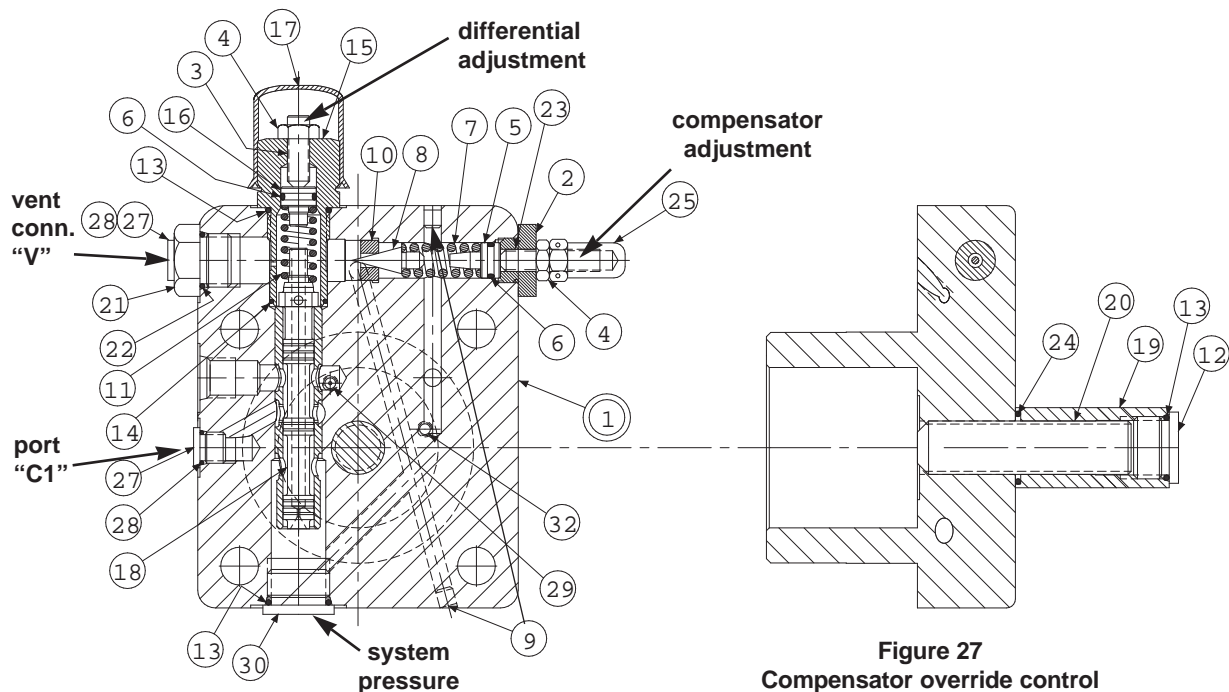

Figure 27
PARTS LIST FOR FIGURE 27
1. See Figure 27. Remove tube line to cap.
2. Remove maximum volume stop assembly (items 12, 13, 19, 20, 24).
4. Remove plug (15) and attached parts. Remove spring (11) and spool (18).
5. Remove adj. plug (2) and attached parts. Remove seal piston (5). Note: a 10-24 screw may be attached to assist in pulling the piston. Remove spring (7) and cone (8).
6. Do not remove sleeve in body (1). Sleeve is pressed into cap and finished to size. If sleeve, snout or cap is worn, replace the cap-sleeve assembly (1).
7. Examine seat (10) for wear. Do not remove unless damaged.